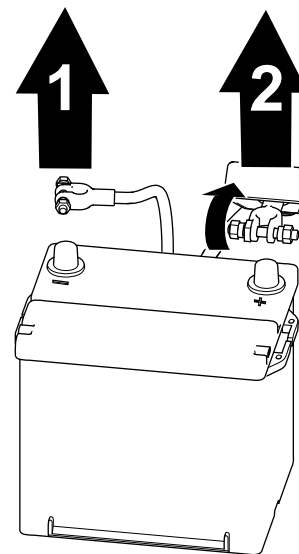

Figure 57
1. Remove the negative battery cable from the battery post (Figure 57).
2. Lift the insulator and remove the positive battery cable from the battery post (Figure 57).